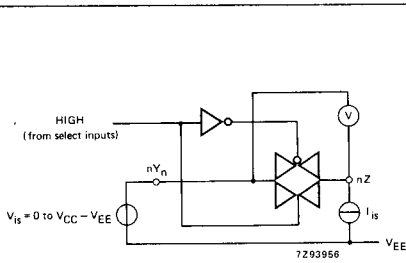

Fig. 8 Test circuit for measuring RON.
- For test circuit measuring RON see Fig. 8.